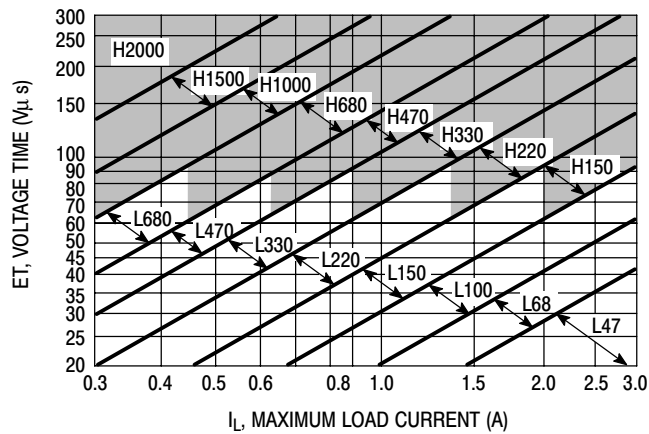
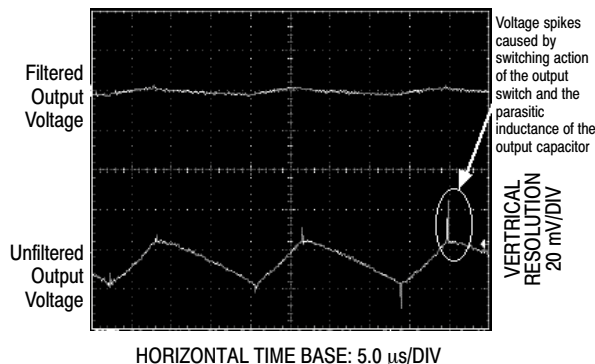

Figure 22. LM2576-ADJ
Figure 25. Output Ripple Voltage Waveforms
4. Inductor Selection (L1) A. Use the following formula to calculate the inductor Volt x microsecond [V x μs] constant: $E \times T = (V_{in} - V_{out}) \frac{V_{out}}{V_{in}} \times \frac{10^6}{F[\text{Hz}]} \text{ [V x } \mu\text{s]}$ B. Match the calculated E x T value with the corresponding number on the vertical axis of the Inductor Value Selection Guide shown in Figure 22. This E x T constant is a measure of the energy handling capability of an inductor and is dependent upon the type of core, the core area, the number of turns, and the duty cycle. C. Next step is to identify the inductance region intersected by the E x T value and the maximum load current value on the horizontal axis shown in Figure 25. D. From the inductor code, identify the inductor value. Then select an appropriate inductor from Table 2. The inductor chosen must be rated for a switching frequency of 52 kHz and for a current rating of $1.15 \times I_{Load}$. The inductor current rating can also be determined by calculating the inductor peak current: $I_{p(max)} = I_{Load(max)} + \frac{(V_{in} - V_{out}) t_{on}}{2L}$ where t_{on} is the “on” time of the power switch and $t_{on} = \frac{V_{out}}{V_{in}} \times \frac{1.0}{f_{osc}}$ For additional information about the inductor, see the inductor section in the “External Components” section of this data sheet.	4. Inductor Selection (L1) A. Calculate E x T [V x μs] constant: $E \times T = (25 - 8.0) \times \frac{8.0}{25} \times \frac{1000}{52} = 80 \text{ [V x } \mu\text{s]}$ B. E x T = 80 [V x μs] C. $I_{Load(max)} = 2.5 \text{ A}$ Inductance Region = H150 D. Proper inductor value = 150 μH Choose the inductor from Table 2.
The regulator output voltage may also contain short voltage spikes at the peaks of the sawtooth waveform (see Figure 25). These voltage spikes are present because of the fast switching action of the output switch, and the parasitic inductance of the output filter capacitor. There are some other important factors such as wiring inductance, stray capacitance, as well as the scope probe used to evaluate these transients, all these contribute to the amplitude of these spikes. To minimize these voltage spikes, low inductance capacitors should be used, and their lead lengths must be kept short. The importance of quality printed circuit board layout design should also be highlighted.
In order to minimize the output ripple voltage it is possible to enlarge the inductance value of the inductor L1 and/or to use a larger value output capacitor. There is also another way to smooth the output by means of an additional LC filter (20 μ H, 100 μ F), that can be added to the output (see Figure 34) to further reduce the amount of output ripple and transients. With such a filter it is possible to reduce the output ripple voltage transients 10 times or more. Figure 25 shows the difference between filtered and unfiltered output waveforms of the regulator shown in Figure 34.